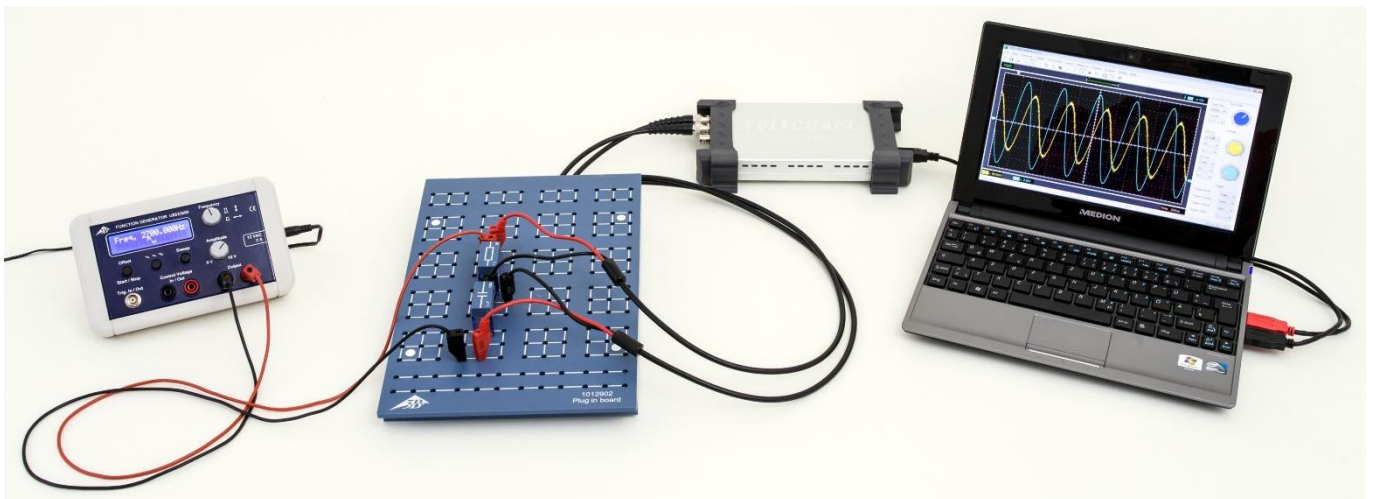

Fig. 1: Experiment set-up
- Set up the measuring equipment (Fig. 1) as shown in the circuit diagram (Fig. 2) with resistor  $R=1\ \Omega$  and a capacitor  $C = 1\ \mu\text{F}$ .